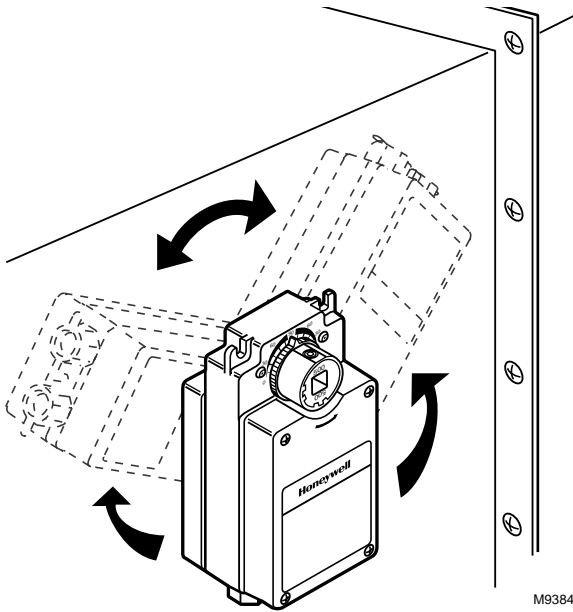

Fig. 2. Actuator can be mounted in any position.
- Mounts on horizontal 3/8 to 5/8 in. (12 to 16 mm) round or square damper shaft. (See Fig. 2 and 3.)
NEMA1 standard with shaft in horizontal position (see Fig. 2).